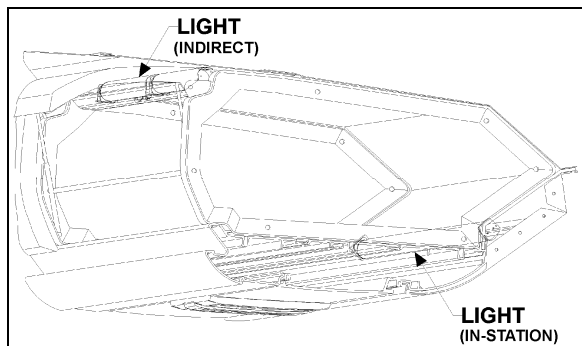

FIGURE 35: PARCEL RACK
3. Lift the hinged cover and replace the two retaining screws (fig. 35).